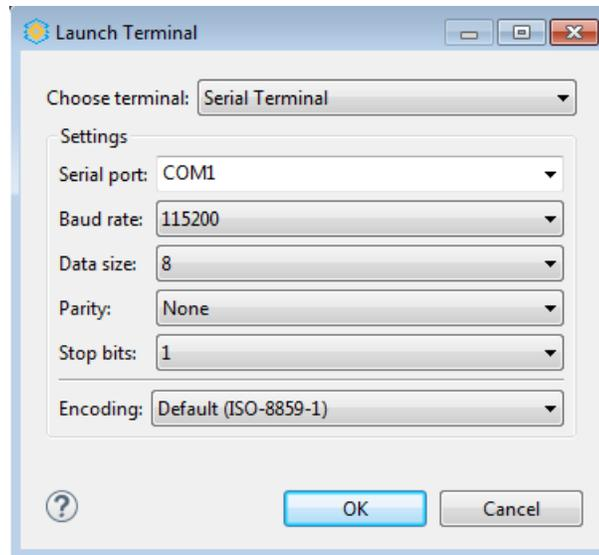

Figure 3.29. Launch Terminal Dialog
- In the **Terminal** view, click the **Open a Terminal** icon . The **Launch Terminal** dialog opens (Figure 3.29).